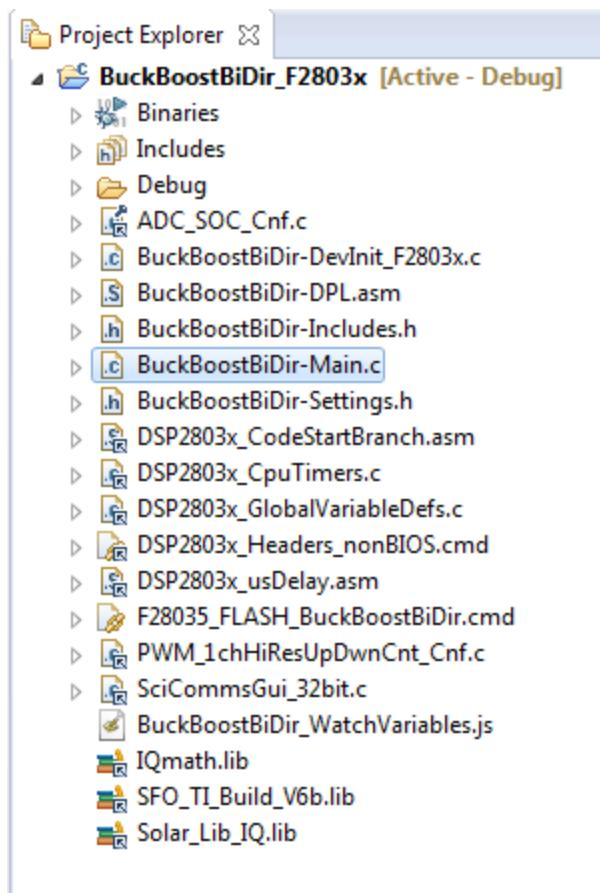

Figure 19. Project Explorer Tab
2. Figure 19 shows the project in the CCSv6 *C/C++ Project* tab, which lists all the key files used in the project.